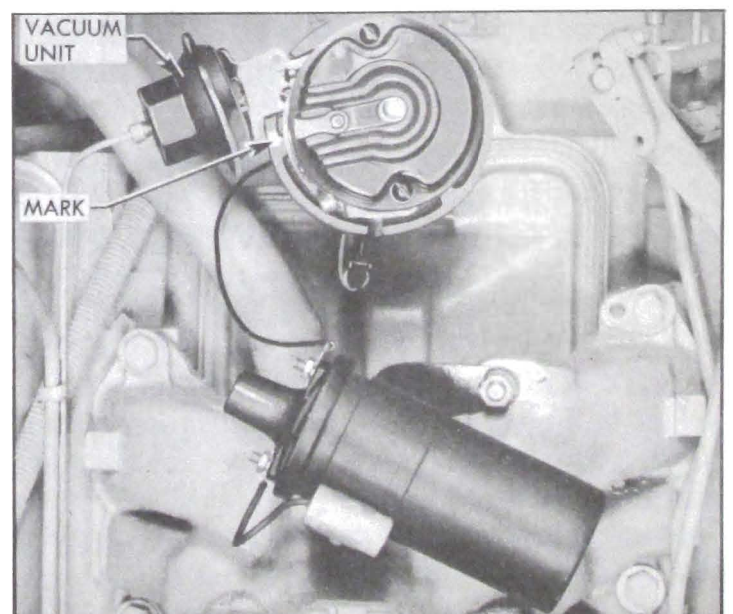

Figure 10-40—Installing Distributor in Engine
2. Install distributor in engine with rotor in position to fire No. 1 cylinder and with vacuum control in position to connect vacuum pipe. See figure 10-40. Install distributor clamp and bolt with lock washer, leaving bolt just loose enough to permit movement of distributor with heavy hand pressure. **NOTE:** *If distributor does not seat in engine block, press down lightly on distributor while cranking engine with starter. After distributor tang snaps into slot in oil pump shaft, start timing again from step 1, leaving distributor installed.*
2. Make a mark on distributor base in line with rotor. Then carefully note the location of the vacuum unit in relation to engine so that the distributor can be replaced in the exact same position after it is serviced. See figure 10-40. **CAUTION:** *If engine is turned over while distributor is out, complete ignition timing procedure must be followed (par. 10-41).*